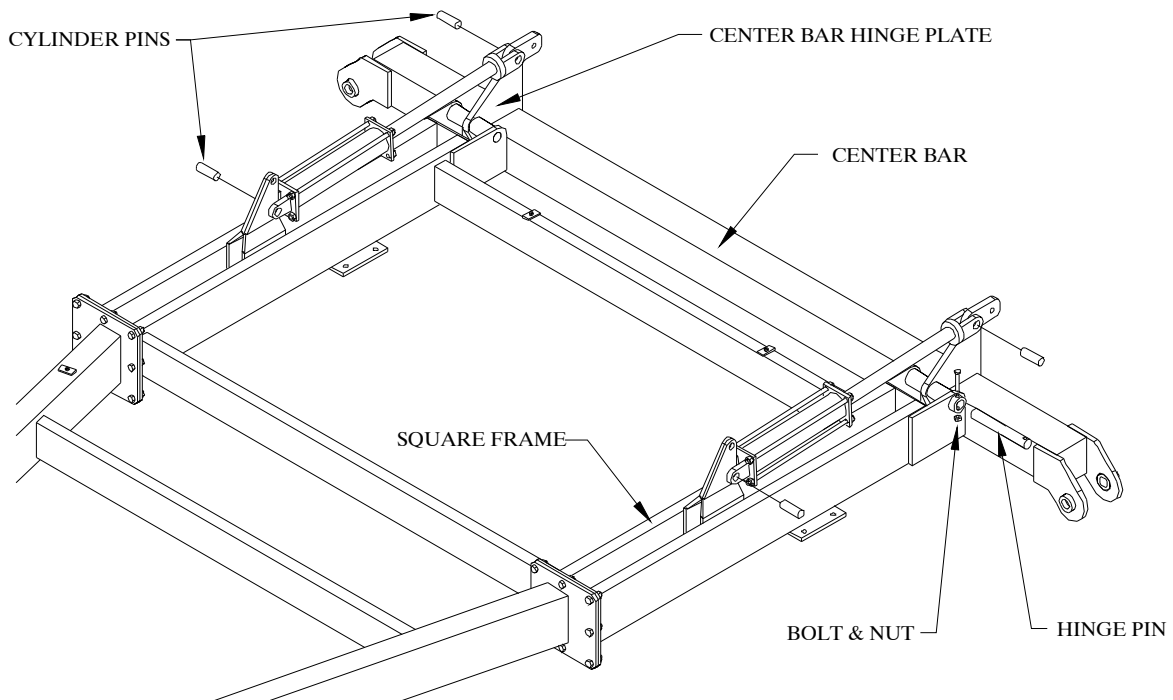

Figure 5
1. Attach the center bar to the square frame. Refer to Figure 5. Use the 1 1/2" x 11 1/16" hinge pins, 1/2" x 3" grade 8 bolts, and locking hex nuts.